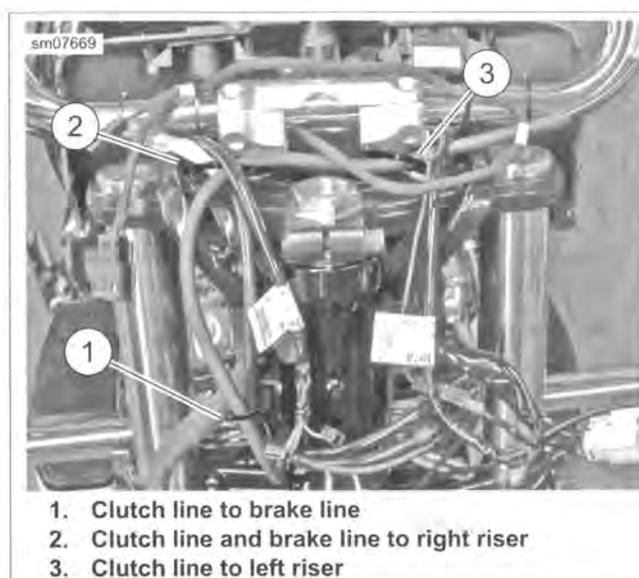

Figure 2-52. Capture Clutch and Brake Fluid Lines (Fairing Models) (Fairing removed for photo clarity)
- b. See Figure 2-52. Cut cable straps (1, 2).
- a. See Figure 2-52. Secure brake line and clutch line to right riser with **new** cable strap (2).
- b. Secure brake line to clutch line with **new** cable strap (1).